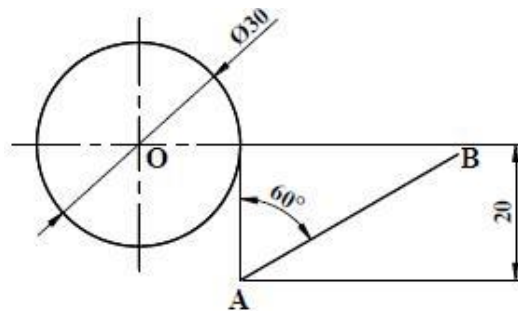

Figure 2.4
4. **Figure 2.4** shows a straight line and a circle. Draw an arc of radius 30 mm tangent to both the given line and circle and outside to the given circle and including the given circle.